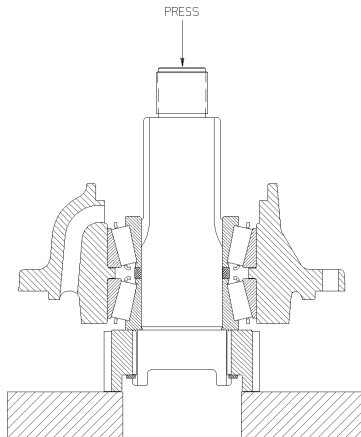

Fig. 31
1. Remove front output carrier, both bearings, and front output shaft gear as shown. *See Fig. 31.*